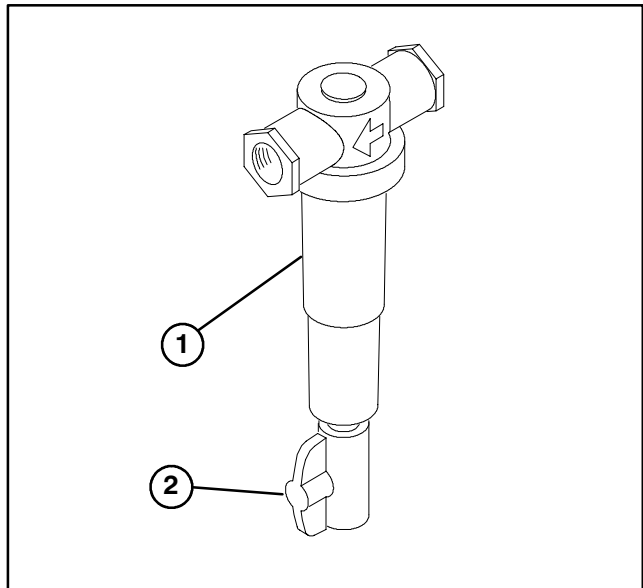

Figure 12
7. If desired, valve on pre-filter (Fig. 12) may be opened slightly (cracked) to provide continuous flushing during operation of machine.